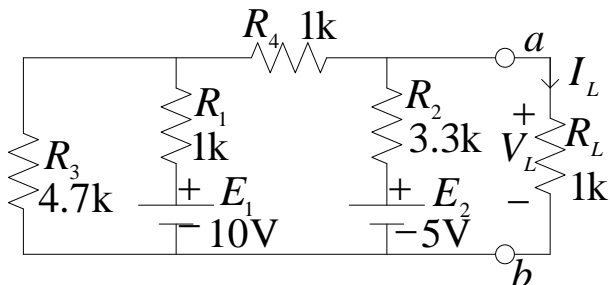
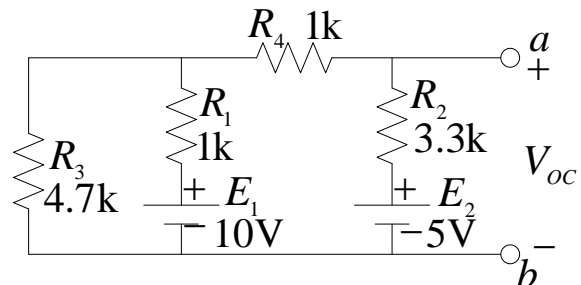
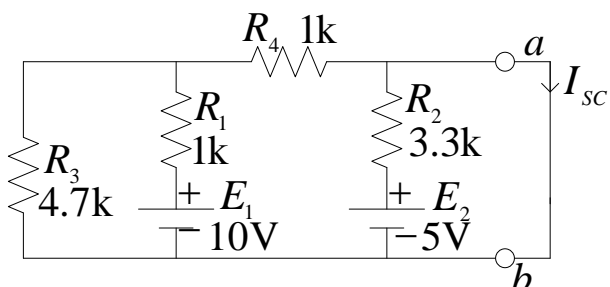
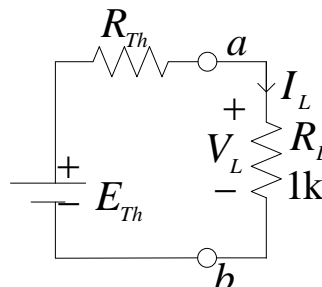

Figure 1. Circuit diagram whose Thevenin's equivalent to be determined.
Figure 2. Circuit diagram to measure the open circuit voltage.
Figure 3. Circuit diagram to measure the short circuit current.
Figure 4. Circuit diagram to verify Thevenin's theorem.
2. Solve the circuits of Figures 1 through 4 using PSpice. Include the PSpice circuits with only currents shown. From the PSpice solution show that the superposition theorem holds. Compare the PSpice solutions with the theoretical solutions and comment on any discrepancy found.
1. Theoretically calculate  $V_L$  and  $I_L$  in Figure 1. Then theoretically calculate  $V_{OC}$  in Figure 2 and  $I_{SC}$  in Figure 3. From the values of  $V_{OC}$  and  $I_{SC}$ , determine  $E_{th}$  and  $R_{th}$ . Theoretically calculate  $V_L$  and  $I_L$  in Figure 4. Verify the Thevenin's theorem from calculated data?
3. Remove  $R_L$  as shown in Figure 2. Measure the open circuit voltage  $V_{OC}$  and record it in Table 1.
4. Connect nodes  $a$  and  $b$  with a wire as shown in Figure 3. Measure the short circuit current  $I_{SC}$  and record it in Table 1.
6. Construct the circuit of Figure 4. Adjust the power supply voltage to make its value equal to  $E_{th}$ . Select  $R_{th}$  from the decade resistance box. Measure  $V_L$  and  $I_L$  and record them in Table 2.